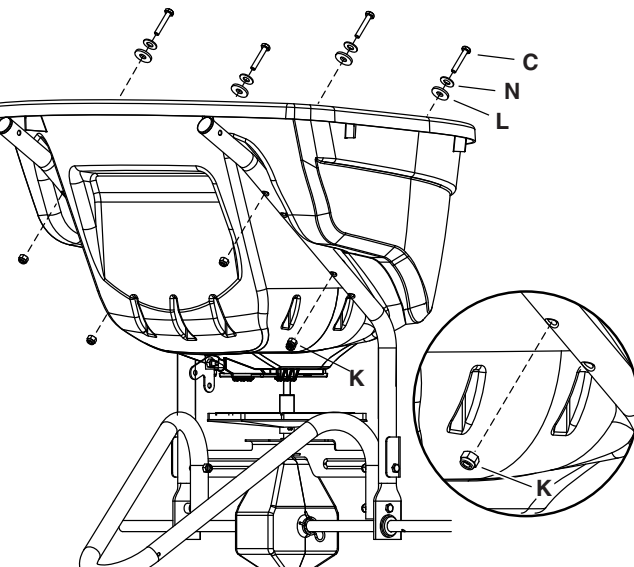

Figure 8
STEP 8: (SEE FIGURE 8)
- Attach the hopper to the upper holes in the hopper support tubes using four 1/4" x 1-3/4" hex bolts (C), 1/4" washers (N), nylon washers (L) and 1/4" nylock nuts (K). **Tighten.**